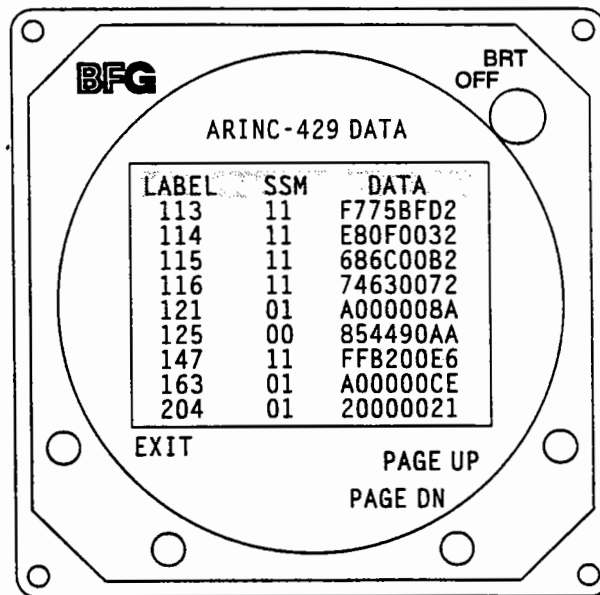

Figure C-3. Typical ARINC-429 Navaid Data Screen
The ARINC-429 Data Screen, shown in figure C-3, provides the capability to verify that valid Navaid data is being received. The ARINC-429 Data Screen provides a list of all ARINC-429 labels that are presently being received from the source navigational system. The user can page up and down to access the labels that apply (reference ARINC-429 Set-Up Screen). The labels are listed in numerical sequence. The ARINC-429 data word is provided under the DATA column. This data will vary as the associated navigation parameter varies. If no data is being supplied for a particular navigation item, the label will not appear on the screen. The ARINC-429 source navigational system also transmits an SSM (sign status matrix) code for each label. This label appears on the Data Screen as a type of error code and is used during troubleshooting.
6. The processor then analyzes 5 seconds of raw input data and presents it as shown in figure C-3.